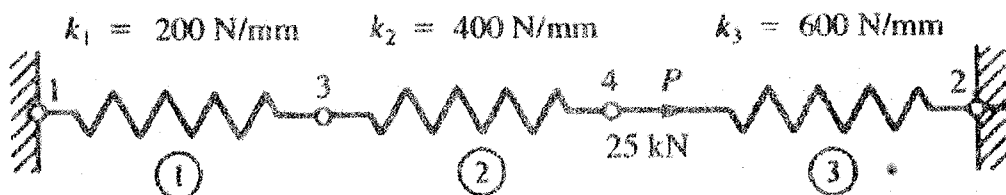

Fig. 3
- Q8. For the spring assemblage shown in Fig. 3 obtain (a) the global stiffness matrix, (b) the displacements of nodes 3 and 4, (c) the reaction forces at nodes 1 and 2, and (d) the forces in each spring. A force of 25 kN is applied at node 4 in the x direction. The spring constants are given in the figure. Nodes 1 and 2.